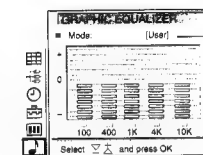

Fig. 34
- 1 Select »Sound Control« in the main menu, then select »Graphic Equalizer« using  $\Delta$  or  $\nabla$  and press OK. The GRAPHIC EQUALIZER menu appears (See Fig. 34).